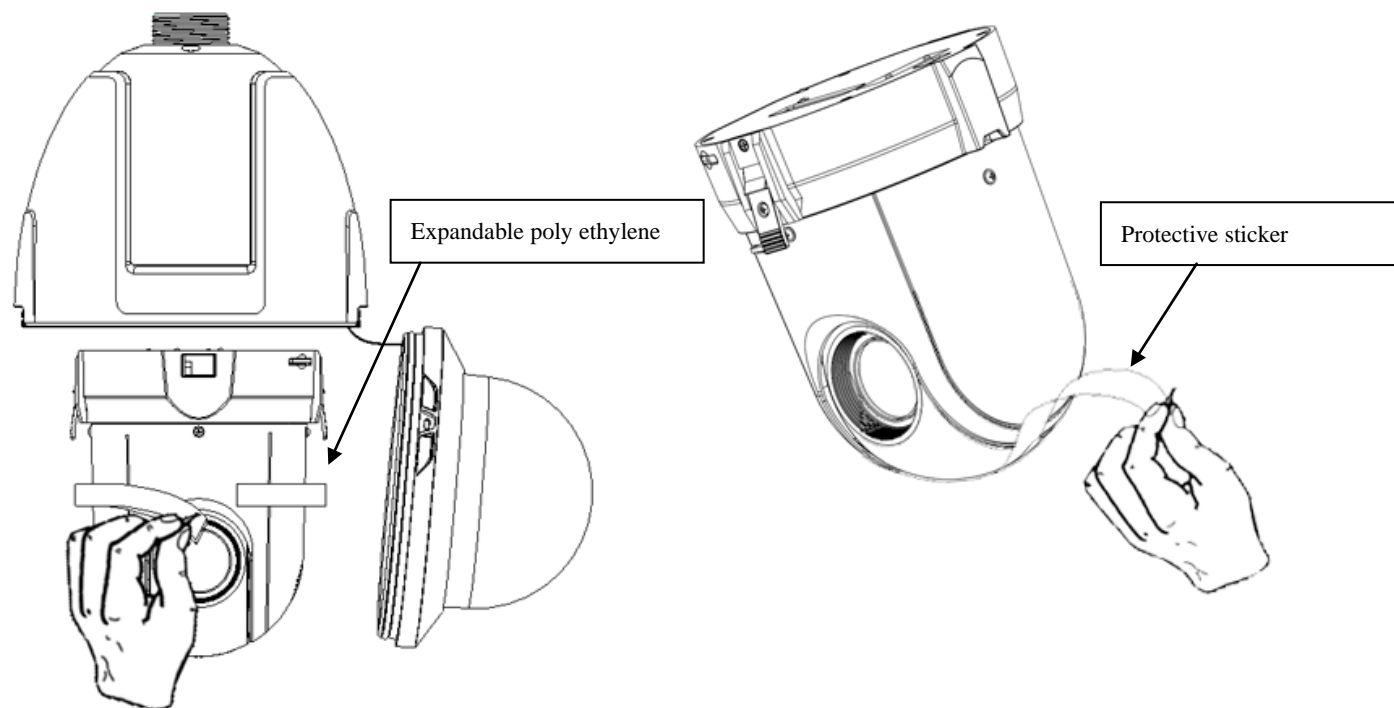

Figure 1.4.1 Open bubble and remove the expandable poly ethylene and protective sticker from dome drive
Step 1: Open the bubble and remove the expandable poly ethylene and protective sticker from the dome drive. Refer to Figure 1.4.1.